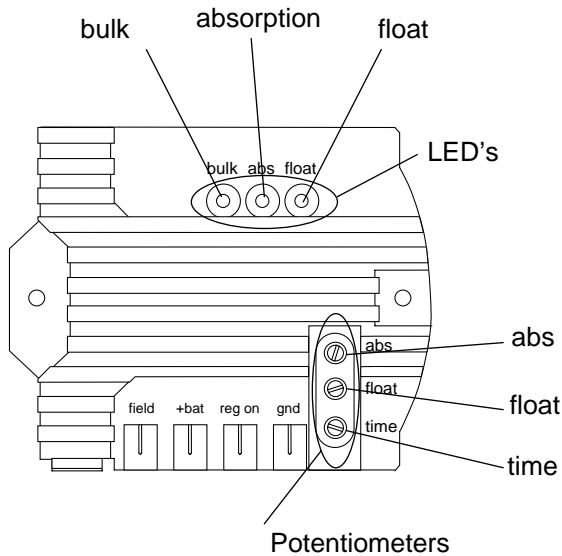

Figure 15: Front view of the Alpha Pro regulator
- 4 The green [bulk] LED on the Alpha Pro regulator (see figure 15) will illuminate, indicating that the charge-cycle begins.
The Alpha Pro regulator has three potentiometers (see figure 15) to adjust the charging system according to the demands of the electrical installation